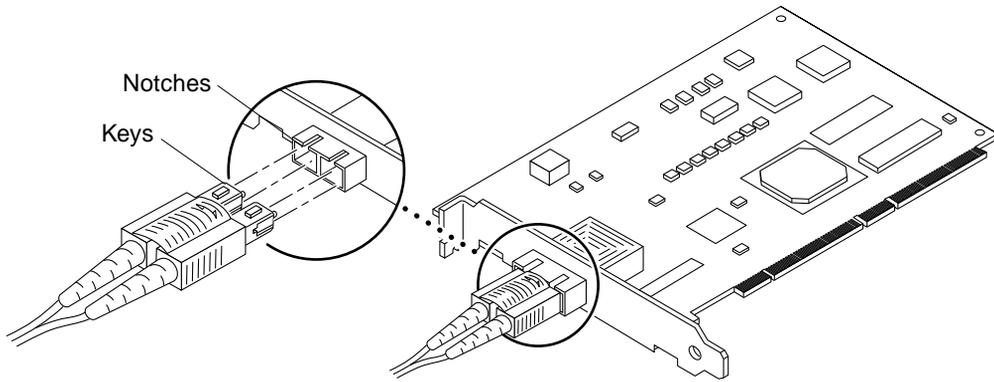

FIGURE 9-18 Removing and Replacing the Host Adapter Fiber Optic Cable
3. Disconnect the fiber optic cable from the host adapter card (FIGURE 9-18).
2. **Pull the two dust covers out of the host adapter GBIC connectors (FIGURE 9-18 on page 9-28).**